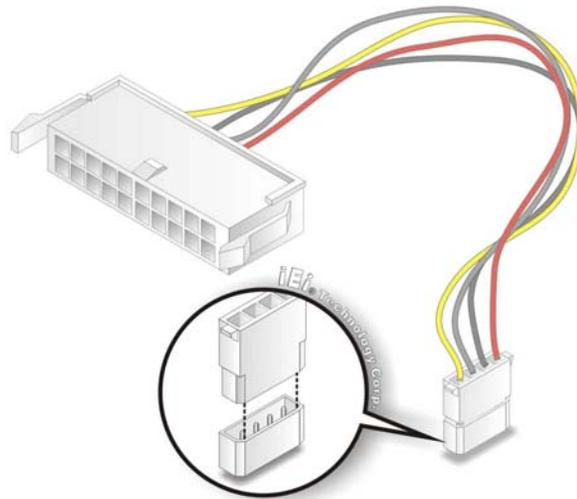

Figure 5-9: Power Cable to Motherboard Connection
Step 3: **Connect the Power Adapter Cable to the AT Power Connector.** Connect the 4-pin (1x4) Molex type power adapter cable connector to the AT power connector (CN1) on the motherboard. See **Figure 5-9**.